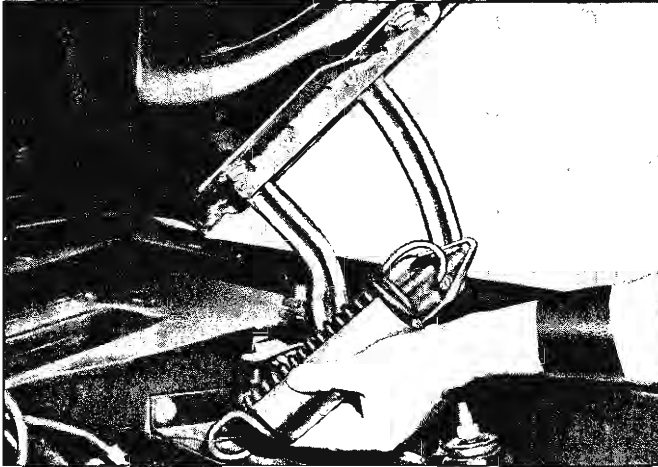

Fig. 38—Hood Spring Removal
- Open hood fully while still holding spring (with tool installed) in hand; when hood is near fully opened position, spring may be removed as shown in Figure 38.